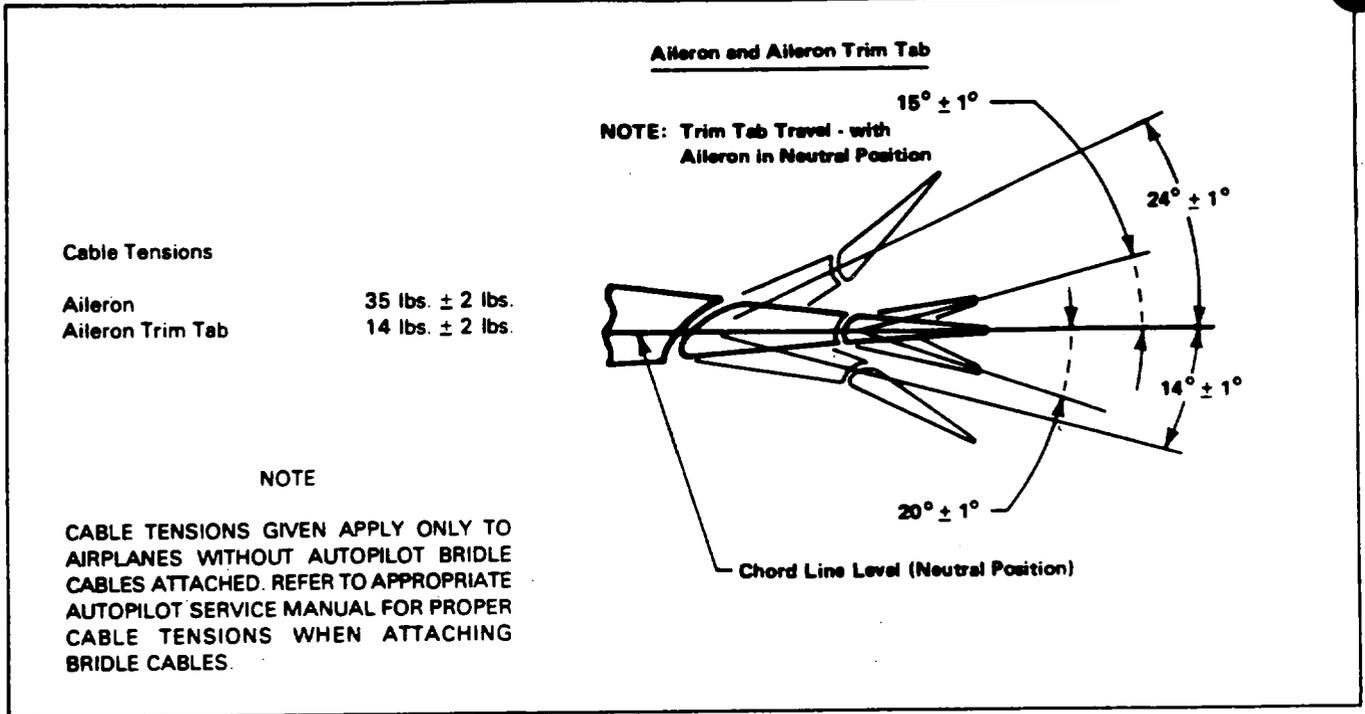

Figure 27-9. Aileron Control Travels and Cable Tension
4. Set cable tension per Figure 27-9 and check control cable rigging and adjustment. Also check cable clearance.
3. With the bellcrank in neutral position, adjust cable tension as given in Figure 27-9 to maintain neutral-center alignment of control wheels. Remove the floor panel to the left of the control pedestal. Alternately adjust the primary and balance cable turnbuckles at the bellcranks with the turnbuckles within the fuselage at station 76.00. Cable tension should be taken at the non-ridged primary control cable and tension corrected to ambient temperature per Chart 2702. Safety turnbuckles.
5. Place a bubble protractor on the inboard section of the aileron and establish neutral or zero on the protractor. Remove the tools holding the aileron bellcranks in neutral, replace nuts and safety. Adjust the bellcrank stop bolts to the specific aileron travel from neutral as given in Figure 27-9. Stops of both bellcranks should contact their stop blocks at the same time and before the control wheel contacts its stop.
7. Set the aileron cable tension per Figure 27-9 and check rigging and adjustment.
13. Set cable tension with the turnbuckles in the wing at station 90.00 per Figure 27-9 and check rigging and adjustment.
9. If the complete cable system is installed, set cable tension with the turnbuckles at wing station 90.00 per Figure 27-9 and check rigging and adjustment.
- C. Cable tension set per specifications given in Figure 27-9.
5. Turn the trim in each direction to screw stops to check tab angle as given in Figure 27-9 and also check the minimum number of cable wraps left on the drum. (Minimum allowable is one and one-quarter turns.)